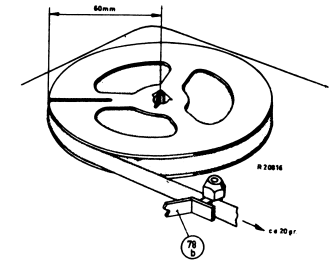
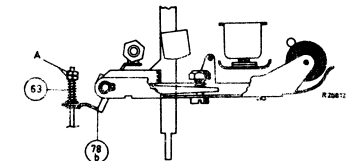

Fig 47
Fig 48
- The force with which the tape is kept taut during winding should amount to approx. 20 grammes, measured with a full 5" reel (reel-diameter 120mm) see fig. 47. This braking action is obtained by the driving cord for the counter and the braking action of brake bracket 78b, which presses the tape against the left-hand tape guide. In order to measure this force the apparatus must be put into position "Winding". The braking action of brake bracket 78b can be adjusted by means of pressure spring 63. This spring can be tensioned with the nuts A, see fig. 48.